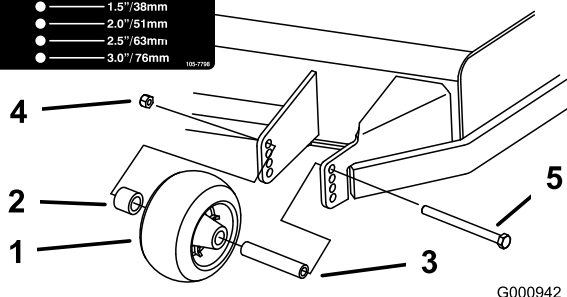
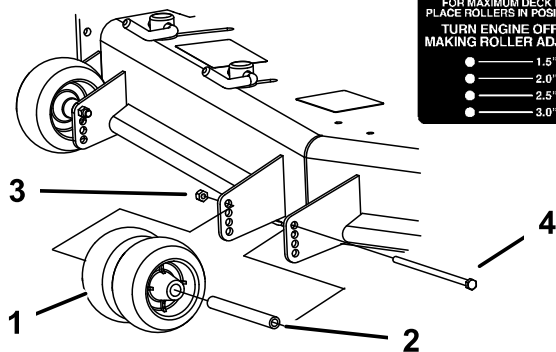
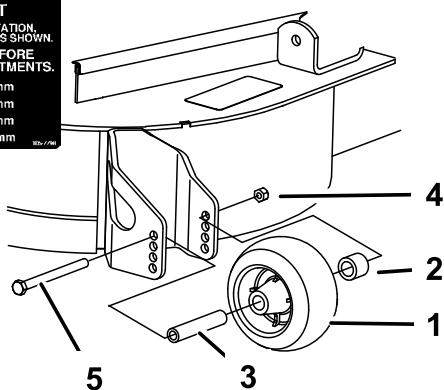

Figure 17
Figure 18
Figure 19
3. After adjusting the height-of-cut, adjust the rollers by removing the flange nut, bushing, spacer, and bolt (Figure 17 , Figure 18 and Figure 19).
Note: The two middle rollers will not have a spacer (Figure 18).
5. Install the flange nut bushing, spacer, and bolt. Torque to 40-45 ft-lb (54-61 N-m) (Figure 17 , Figure 18 and Figure 19).